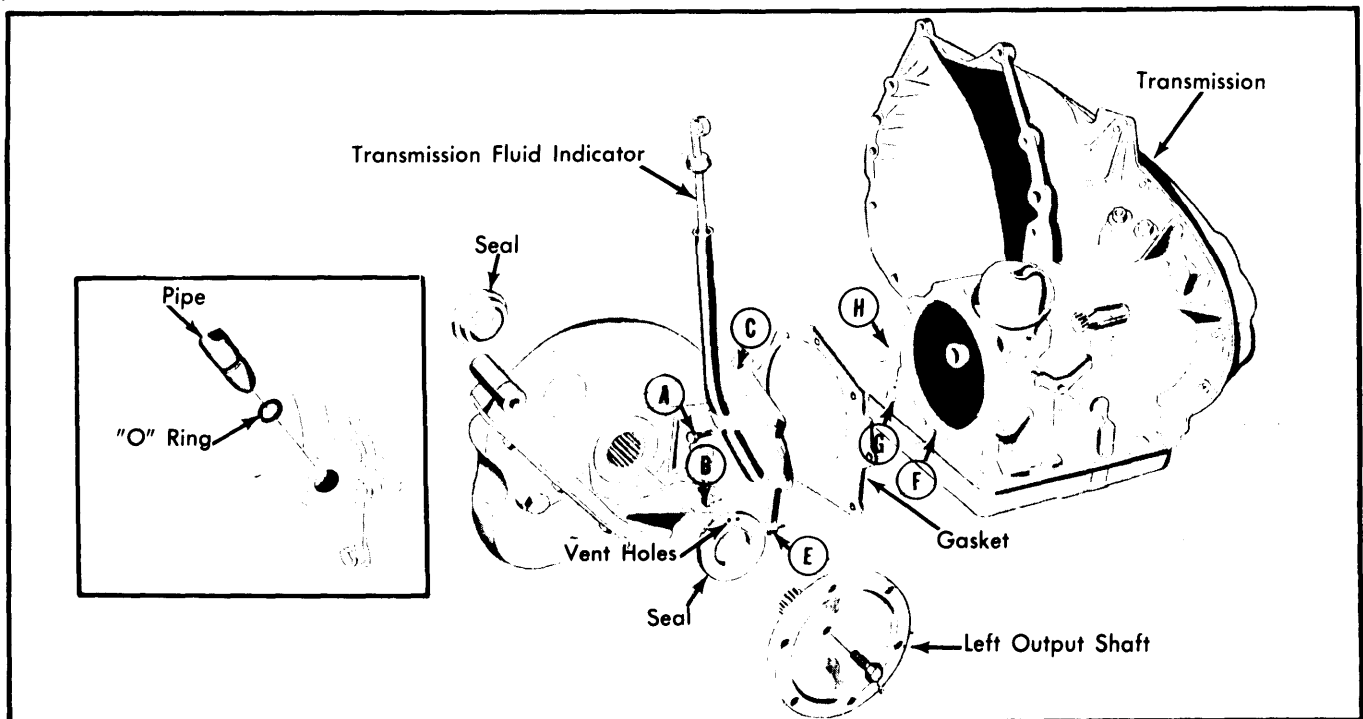

Fig. 4 General Motors Final Drive Attachment Showing Attaching Bolt Locations
**Removal** — 1) Disconnect negative battery terminal, then remove transmission filler tube. Remove bolts "A", "B", and "C", (refer to Fig. 4 for bolt location), securing upper part of final drive housing to transmission housing. Hoist vehicle, then support at front frame side rails. On Toronado models, remove oil filter element. On Eldorado models, remove screw securing cooler lines and clip to support bracket.
2) Disconnect drive axles from output shafts, then remove right output shaft. Remove bolt securing final drive support brace to engine mount bracket. Remove final drive cover and allow lubricant to drain, then position suitable lifting device and adapter on final drive assembly. Remove bolts "E", "F", "G" and "H" (refer to Fig. 4 for bolt location), then disengage final drive from transmission. Lower final drive assembly out of vehicle.
2) Install bolts "E", "F", "G" and "H" (refer to Fig. 4 for bolt location) and tighten. Install bolt securing final drive support brace to engine mount bracket. Install final drive cover with new gasket. Complete installation by reversing removal procedures. After vehicle is lowered, install bolts "A", "B", "C" (refer to Fig. 4 for bolt location) and tighten.